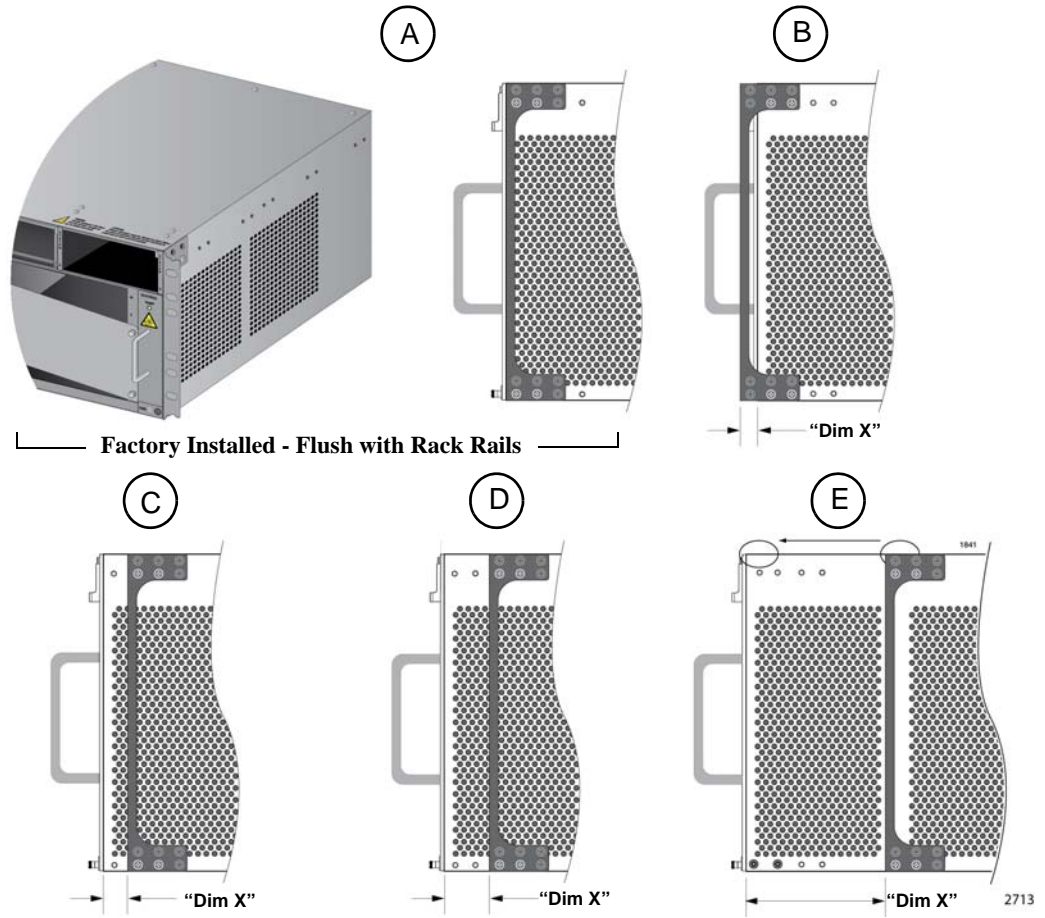
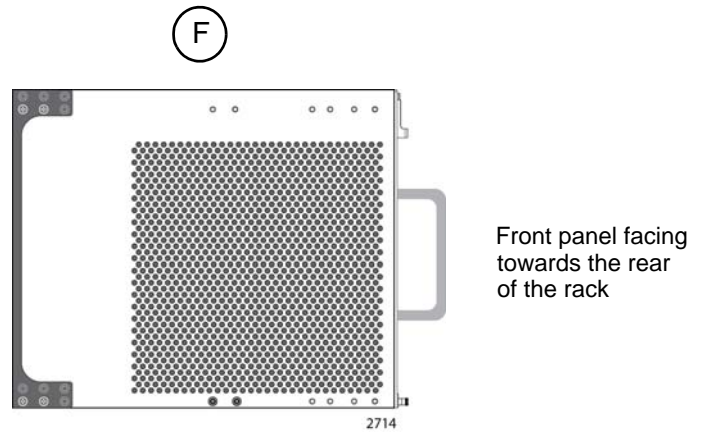

Figure 39. Rack Mounting Bracket Locations
Figure 40. Rack Bracket Locations for Reverse Position of Chassis
The different bracket positions are listed in Table 24 on page 97 and illustrated in Figure 39 on page 98 and Figure 40 on page 98. Please review the following information before moving the brackets:
- ❑ To install the rack mount brackets in position “E,” you have to remove the two chassis screws from the bottom-middle section of the chassis and re-install them in front where the rack mount bracket screws were originally, as shown in Figure 39 on page 98.
- ❑ The dimension (X) between the front panel and the rack rails is given for each rack mounting bracket position in Table 24.